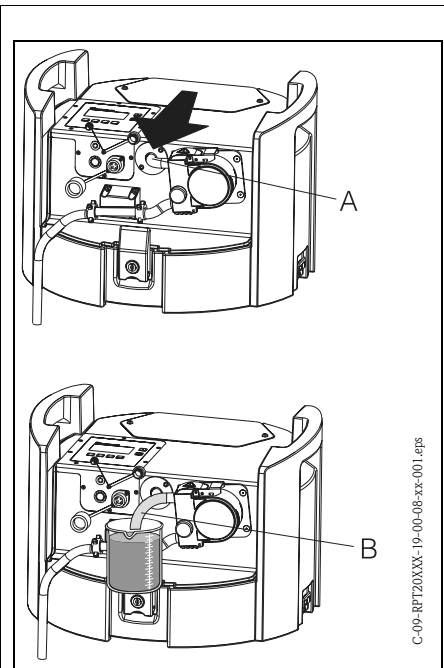

Fig. 18: Calibrating sample volume
3. Remove the already installed pump hose from the hose feeder (→ Fig. 18, pos. A) and feed it into the measurement beaker (→ Fig. 18, pos. B).
13. Replace the pump hose into the hose feeder until it hits the end stop (→ Fig. 18, pos. A).